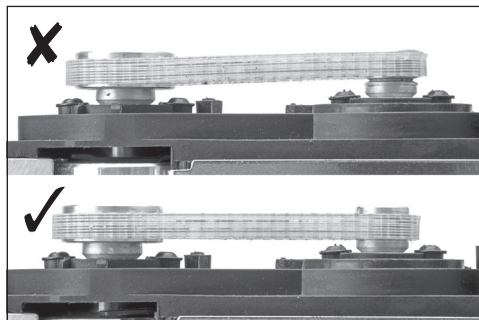

Fig. 11
8.3 Transmission Belt Replacement (Fig.9 – Fig.11)